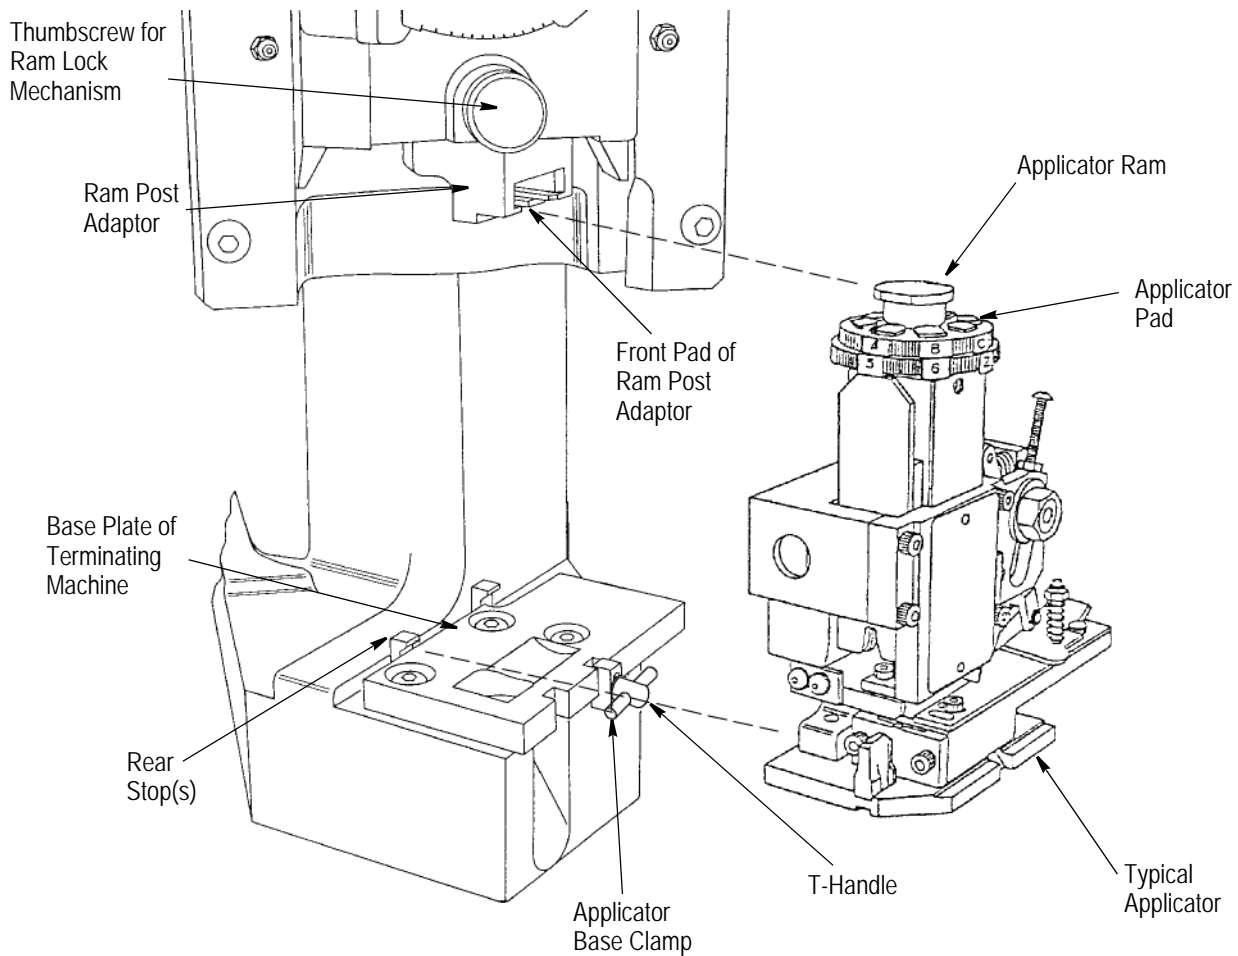

Figure 12
6. Secure the applicator ram post to the ram post adaptor by turning the thumbscrew located at the front of the ram assembly clockwise until tight. See Figure 12.